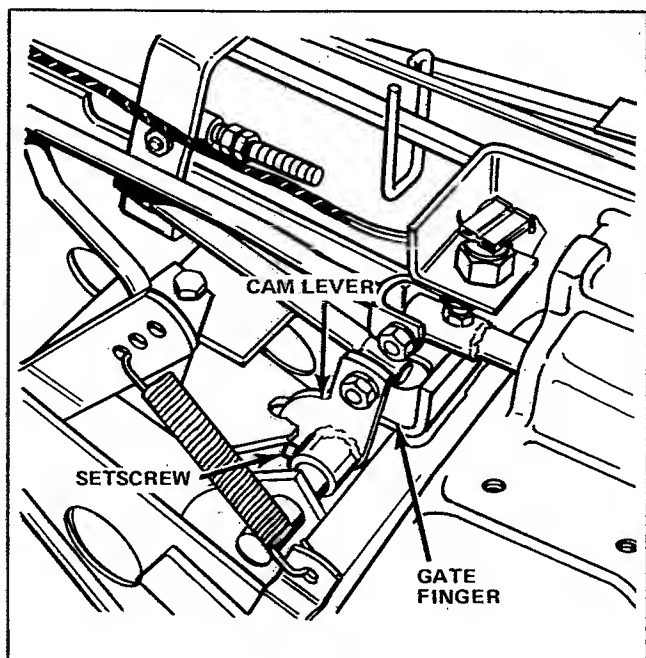

Figure 20. Idler Pulley Arm Adjustment
2. Loosen setscrew in hub of cam lever. (See figure 20).
3. With the idler arm against the right sideplate, move the cam lever so that it is flush against the left edge of the gate finger (figure 20).